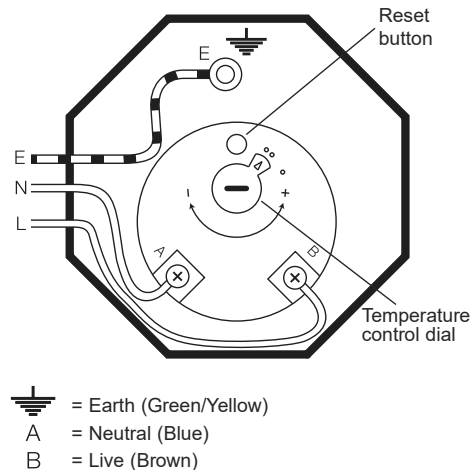

Figure 5-1: Immersion heater wiring connections
The control thermostat is pre-set on position "••" at a temperature of approximately 65°C. Refer to Figure 5-1.
Installation and wiring instructions for the immersion heater are supplied with each unit. The wiring connections are also shown in Figure 5-1. Follow the wiring instructions connecting the live, neutral and earth as indicated.
Each 3kW 230V 50Hz-immersion heater should be wired in accordance with the instructions given in Figure 5-1.
3. The safety cut-out reset pin is positioned to the side of the control knob (indicated by a triangle with the words 'bipolar safety' above). Refer to Figure 5-1.